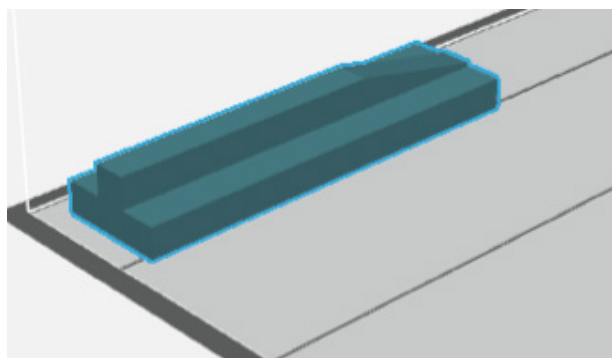

Figure 6: Long edge along the X-axis.
- For parts that have a high aspect ratio (X:Y), position the longer edge along the X-axis (Figure 6).